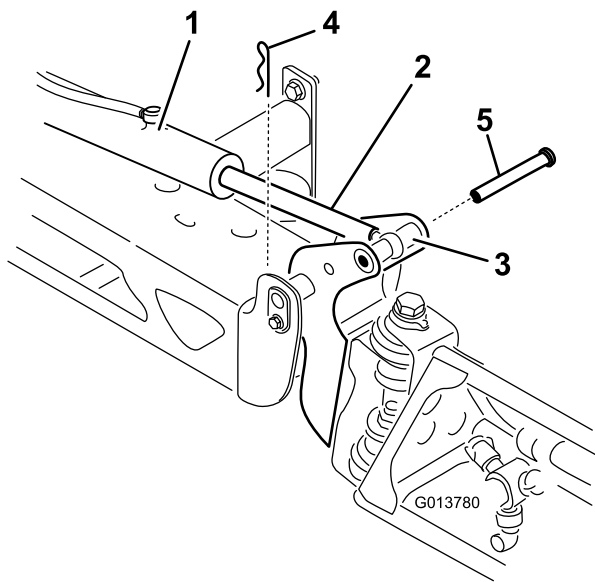

Figure 70
2. Remove the hairpin from the clevis pin (Figure 70).
3. Lift up on the section and remove the clevis pin and slowly lower the section to the ground (Figure 70).
- While supporting the spray section, insert the clevis pin through both boom pivot and actuator rod (Figure 70).